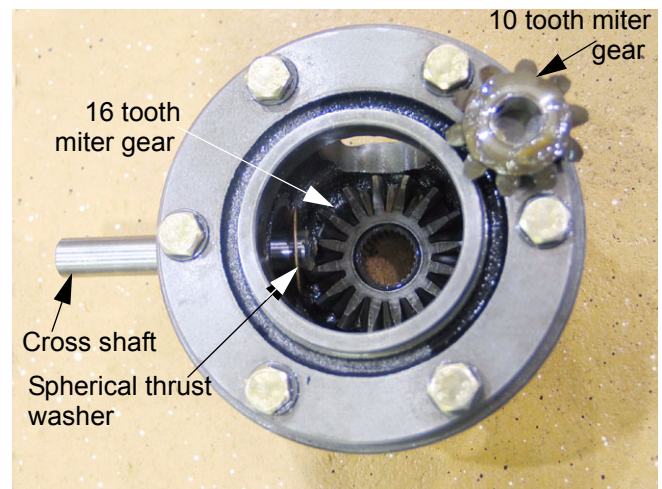

Figure 9.64
- 9.64. Install the differential bearing and 16 tooth miter gear that go in the back of the housing, behind the 10 tooth miter gears. See Figure 9.64.